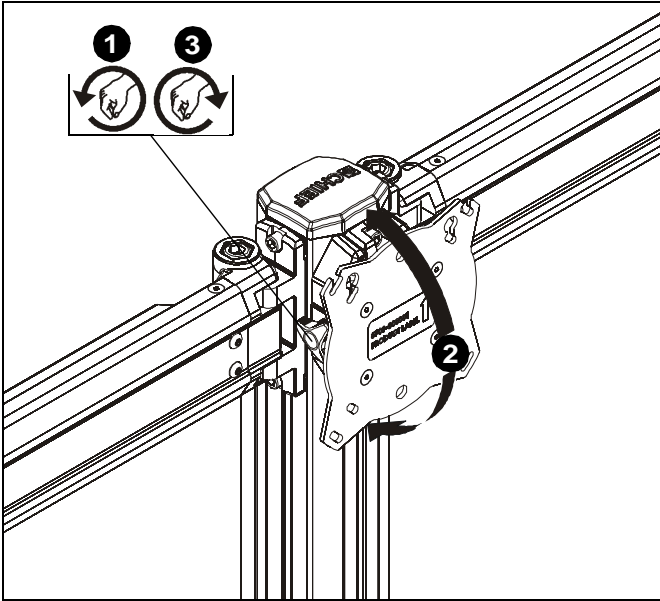

Figure 23
1. Loosen knob on side of center faceplate assembly. (See Figure 23)
2. Adjust pitch as desired. (See Figure 23)
3. Tighten knob to secure desired pitch position. (See Figure 23)